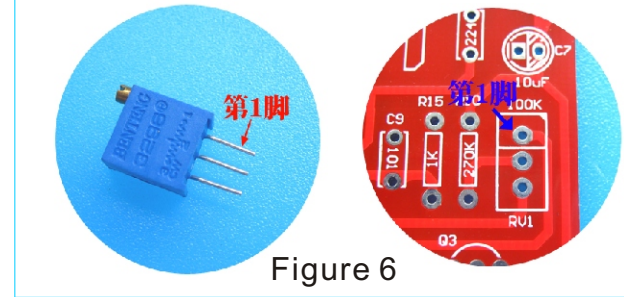

Figure 6
**12. Potentiometer (Figure 6)**